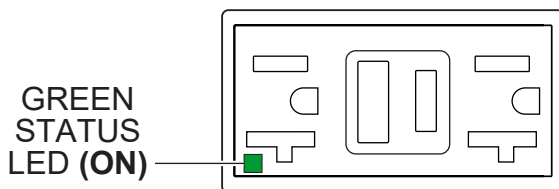

Figure 68. GFCI Receptacle (ON)
3. Verify that the **status LED** on the corresponding **GFCI receptacle** (Figure 68) is **ON (GREEN)**.